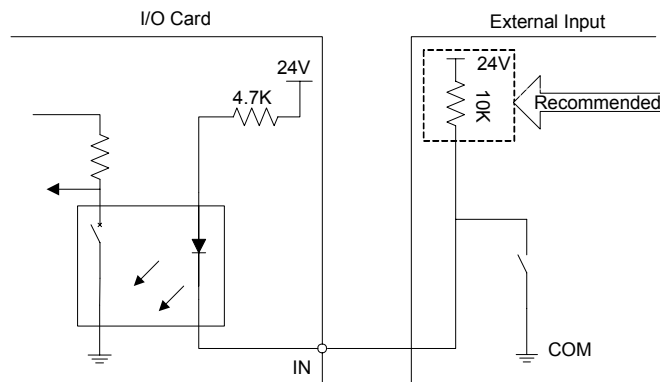

Fig. 4-4 Connection between Binary Input Signal and Photoelectric Switch (or Proximity Switch)
The binary input signal can also be connected with a photoelectric switch or proximity switch of NPN (NO) or NPN (NC) type. The connection diagram is shown below in Fig. 4-4: